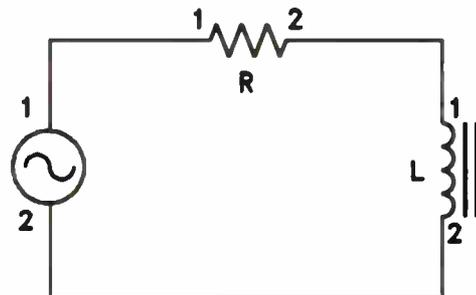
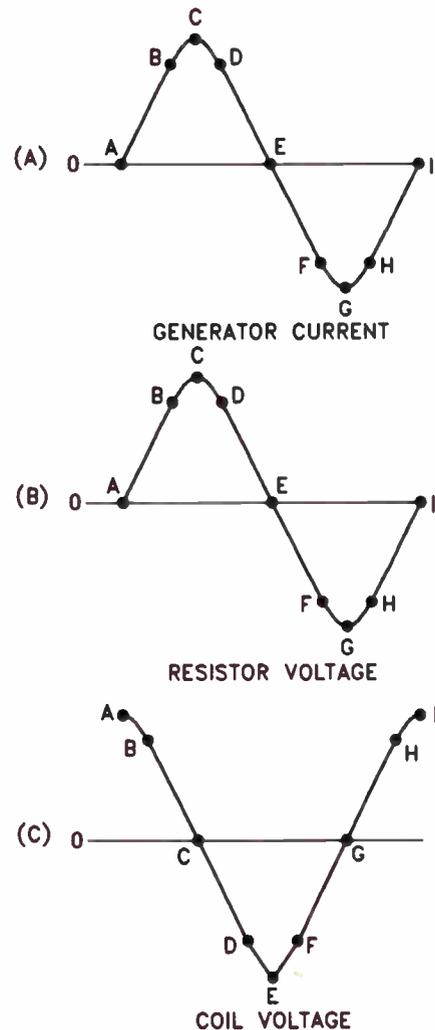

Figure 14. A coil and resistor connected in series across an ac source.
Figure 15. (A) A single current cycle, (B) the resulting voltage drop across the resistor, and (C) the voltage across the coil.
This is not true of circuits containing coils. Look at the circuit shown in Fig.14. Here we have a resistor and a coil connected in series, and the two are connected across an ac generator. Let's examine the ac current flowing through the circuit to see what happens to the voltage across
Figure 15(A) shows a single current cycle from the ac generator in Fig.14. The start of the sine-wave cycle is marked point A. At the instant the cycle begins at point A, the current is increasing at its maximum rate of change. This occurs at both the upslope and downslope of the ac waveform. The rate of change is greatest during gains or drops in current, and lower (but still changing) around the peaks. At the peaks, the rate of change briefly drops to zero as the direction of current flow reverses.
Consider the voltage across the resistor  $R$ . As the current increases from point A to point C, the voltage drop across the resistor increases at exactly the same rate as the current, generating the waveform shown in Fig.15(B). At point C, as the current reaches its maximum value, so will the voltage. As the current reverses direction and goes through the second half of its cycle, the voltage will follow exactly as shown in the waveform. Notice that at each instant in time throughout the entire cycle, the voltage across the resistor is exactly proportional to the current flowing through it. Here the current and voltage are in phase.
The voltage and current across the coil will not be in phase. This is because the voltage across the coil depends upon the rate of flux change. The maximum flux change occurs when the current is changing at its highest rate. Therefore, since the current is changing at a maximum rate at point A in Fig. 15(A), we will have a maximum voltage across the coil. As the current increases from point A to point C, the rate of change decreases until it reaches point C, where it does not change at all, at which point we will see the minimum amount of voltage across the coil.
The voltage across the coil continues to follow the curve shown in Fig. 15(C). The induced voltage decreases until, when the current reaches point C, the voltage has dropped to zero. Now as the current begins to decrease, a voltage is induced in the coil that tries to oppose that change. That is, the voltage builds up from C to a maximum value at E when the current is going through zero and changing at the maximum rate. As the current begins to flow in the opposite direction from E to G, the rate of change once again is decreasing, so the voltage falls from E to G as shown in Fig. 15(C). Finally, as the current falls from G to I, where it once again changes at its maximum rate, the coil voltage builds up from G to I, reaching a maximum value once again.
Compare Fig. 15(A) to Fig. 15(C). In Fig. 15(A), from point A to point I is one cycle. It also represents  $360^\circ$ , or a complete circle extended over time (shown graphically). From A to E is a
lead the current by some value between 0° and 90°, since the circuit is not purely inductive. Let's assume that the resistance in the circuit of Fig. 14 is equal to the inductive reactance of the coil. The voltage developed across the resistor is equal to  $IR$ , and the voltage developed across the coil is equal to  $IX_L$  (the circuit current times the reactance of the coil). Therefore, the voltage drop across the resistor is equal to the reactive voltage across the coil.
Figure 16. Vector diagrams showing the relationship between circuit current, generator voltage, coil voltage, and resistor voltage of the current shown in Figure 15. (A) The vectors for circuit current ( $E_R$ ) and coil voltage ( $E_L$ ). (B) The generator voltage vector ( $E_G$ ).
The practical way to study how a coil behaves in an ac circuit is to imagine that the coil is made of a pure inductance with a resistor in series with it. This is essentially the type of circuit used in Fig.14. You should see in the figure that the current in the circuit lags behind the generator voltage. Where the resistance is equal to the inductive reactance, the phase difference is 45 degrees.